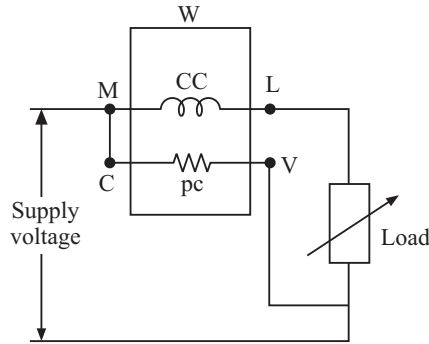

Fig. 4.13 Wattmeter
[**Concept of Wattmeter:** It is used to measure the power. It consists of a current coil (CC) and a voltage coil or potential coil (pc). CC is connected in series and carries the load current, pc is connected in parallel with the load and pd appears across it as shown in Fig. 4.13].